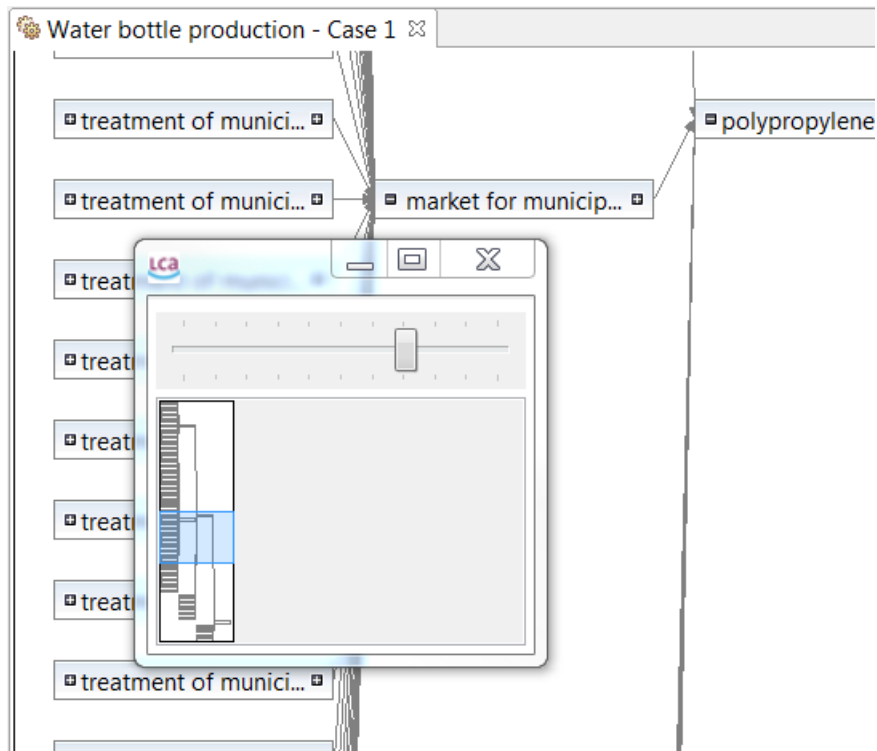

Figure 48: Model graph - miniature view
- Open miniature view (useful for navigating your way around complex model graphs by giving a miniature overview of the model graph. The blue area represents the current view. See Figure 48)